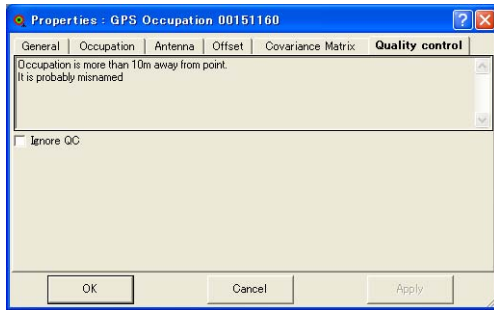

Figure 5-103. Quality Control Properties
- View *Quality Control* tab contains informational text on selected occupations (marked in red on the views) that did not pass some of the quality control checks (Figure 5-103 on page 5-68). To turn off the feature that marks a point red when it fails some quality control tests, select the *Ignore QC* check box.